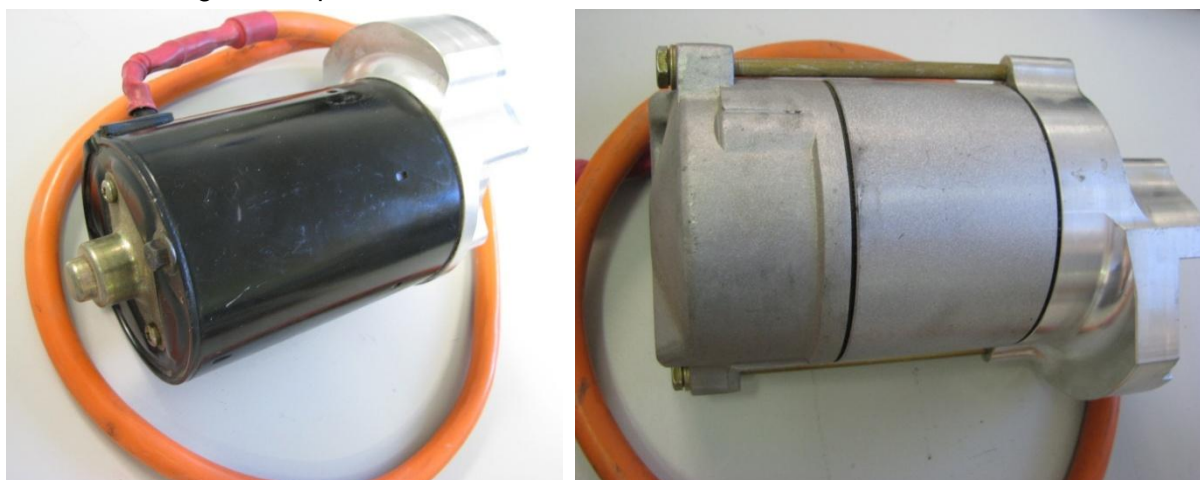

Figure 51 – Starter Motor Disassembly
- Older motors used a different starter motor (on left, Figure 51). These motors are undone via Phillips-head screws through the cap of the motor.